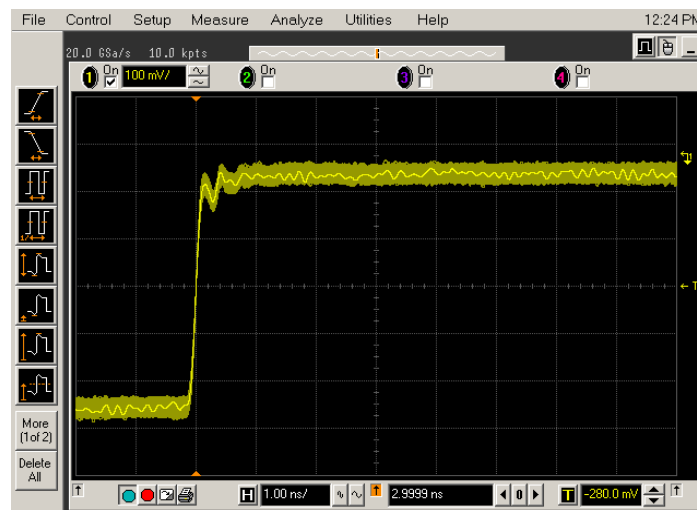

Figure 107 Good Connection
- 4 Set the horizontal position to approximately 3 ns. You should see a waveform similar to that in **Figure 107**.